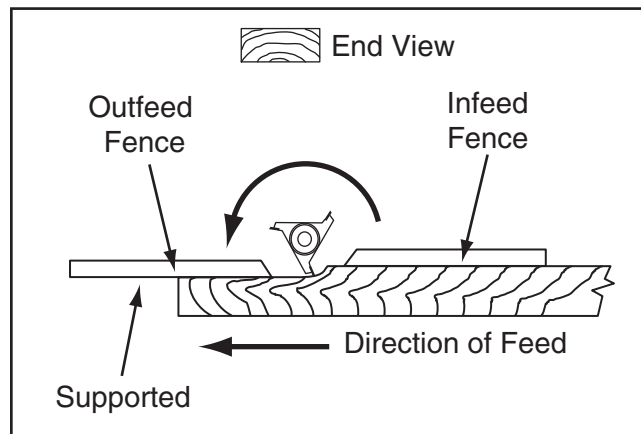

Figure 42. Support workpiece as it is fed.
6. When the cutter comes to a complete stop, adjust the outfeed fence to support the new profiled edge, as shown in **Figure 42**.